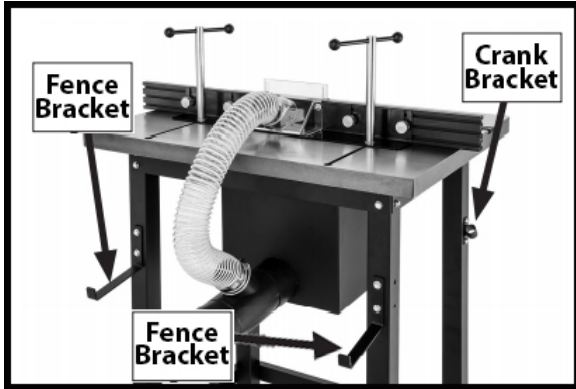

Figure 33
21. Install the fence storage brackets and crank handle storage bracket with (6) 5/16-18 x ½" flange bolts as in (Fig.33).